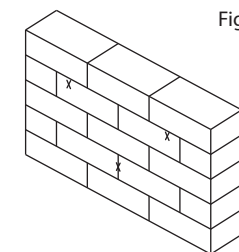

Fig. 3
- 1** Place the wall plate against the wall in the desired location with the arrow pointing up and level it using the bubble level (N).
- 2** While another person holds the wall plate in place, mark three locations on the wall for securing the mount. Mark two locations at the top of the wall plate and one location at the bottom of the wall plate (see Fig. 3).